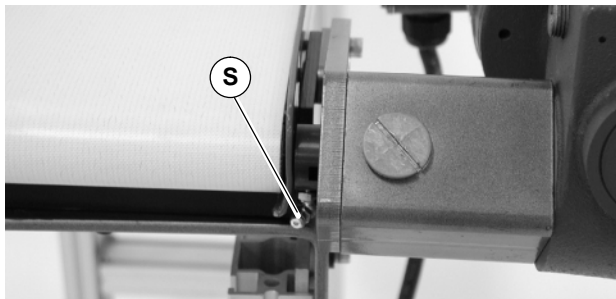

Figure 8
1. Locate the drive shaft grease fitting (S of Figure 8). Lubricate pulley bearings through the grease fitting.